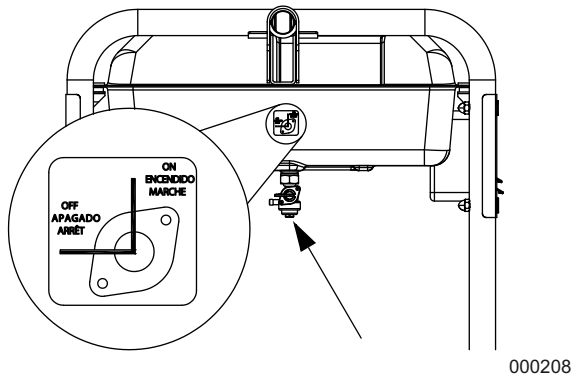

Figure 3-2. Fuel Valve
1. To start the engine, turn the fuel valve to the ON position (Figure 3-2).